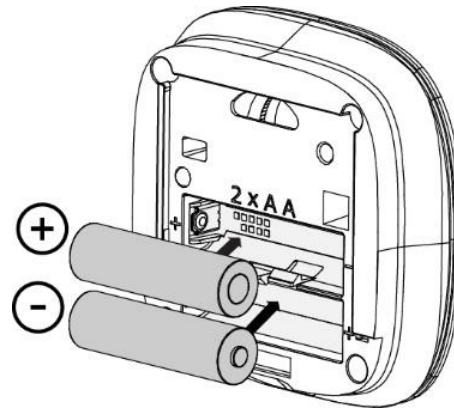

Figure 3
2. Place batteries as instructed in Figure 3.